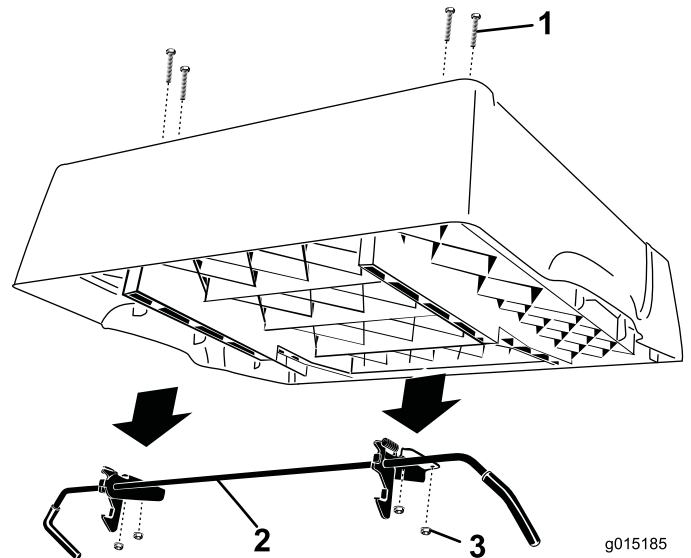

Figure 2
4. Remove the 4 flange nuts securing the latch rod brackets to the underside of the box (Figure 2). Remove and save the rod and latches. Leave the carriage bolts in the holes and secure them to the bed with the flange nuts.